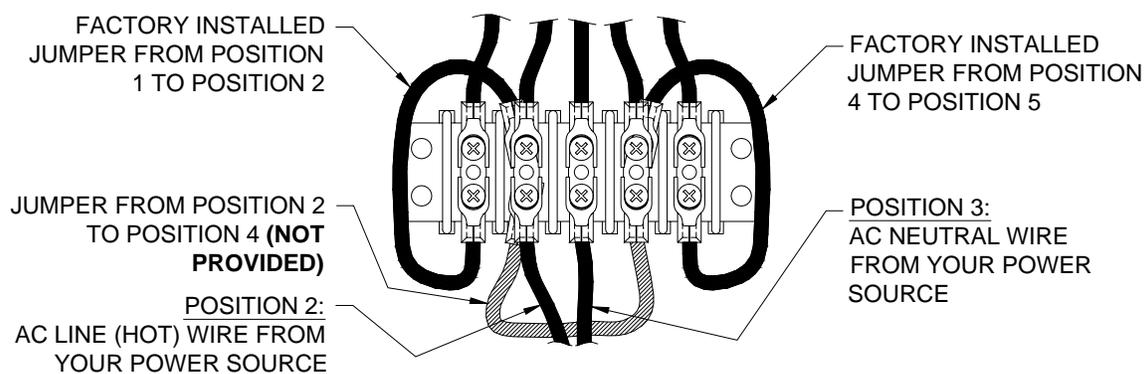

Figure 7 120 VAC Connections
- If you are going to connect the scoreboard to a 120 VAC supply, connect the AC line wire to position 2 and the AC neutral wire to position 3 of terminal strip T4 on the junction chassis. Add a jumper from position 2 to position 4. **This jumper is not provided.** Refer to figure 7.